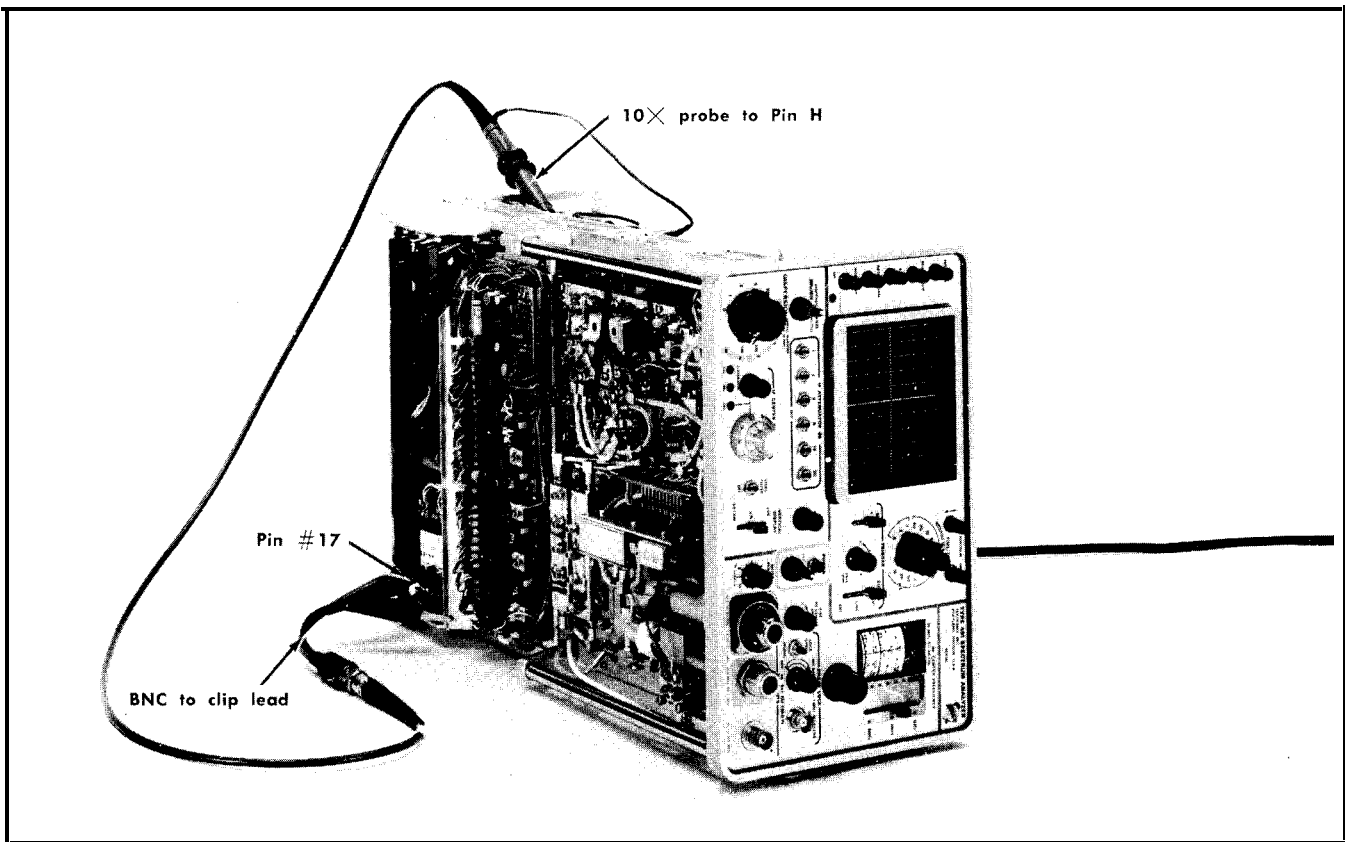

Fig. 6-13. Setup to check LINE triggering operation.
- a. Equipment setup is shown in Fig. 6-13.
- c. Turn the POWER switch OFF, then connect a 10x test probe and a BNC to clip lead adapter between pin H of the Vertical Amplifier circuit board and pin 17 of the power transformer. See Fig. 6-13.